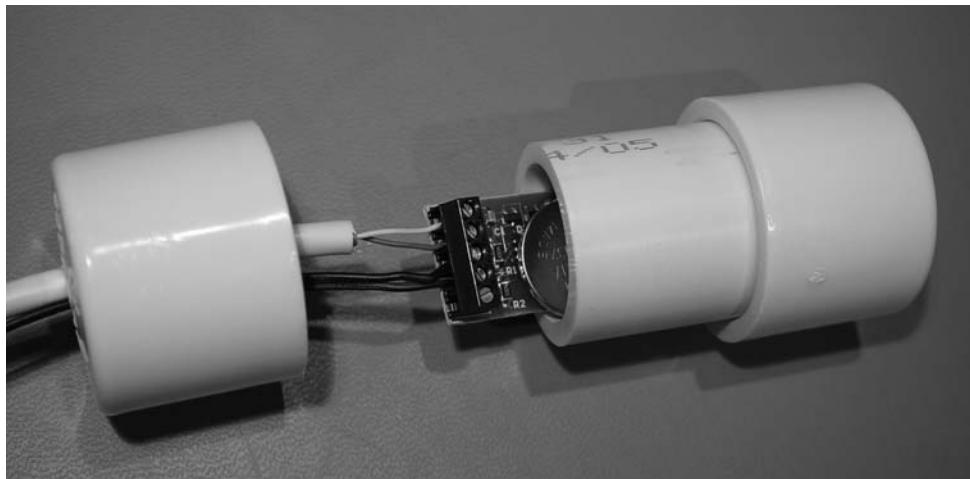

FIGURE 9-5: Waterproof container for the rain counter board.
4. On the other cap, drill a hole just large enough to fit the 1-Wire data cable and the rain counter reed switch wire through. See Figure 9-5 for an example.